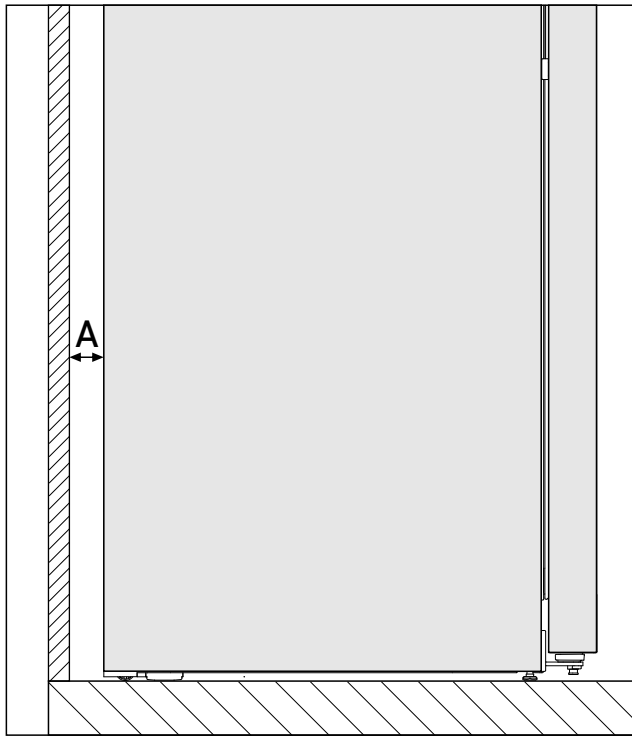

Fig. 3 *
The energy consumption has been determined with a gap of Fig. 3 (A) between the rear of the appliance and the wall. If the wall gap is less than Fig. 3 (A), this does not affect the appliance's operability but the energy consumption does increase slightly at a smaller wall gap.*